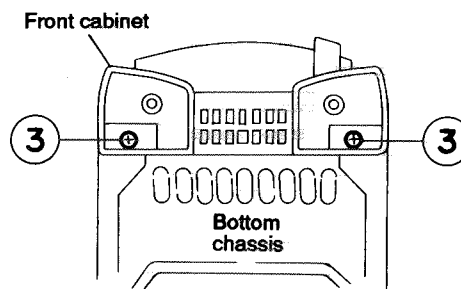

Fig. 5-3
(See Figs. 5-3~5-6)
1. After turning the body upside down, remove the two screws ③ retaining the front cabinet assembly (See Fig. 5-3)